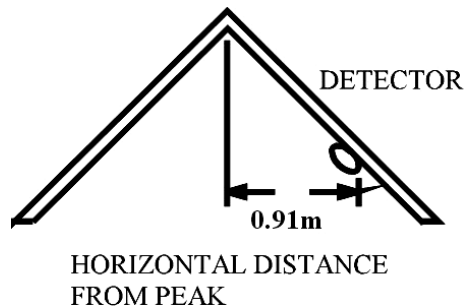

Fig. 5: Recommended location to mount smoke detectors in rooms with a sloped, gabled, or peaked ceiling
- If some of your rooms have sloped, peaked, or gabled ceilings, try to mount detectors 3 feet (0.92m) measured horizontally from the highest point of the ceiling as shown Figure 5